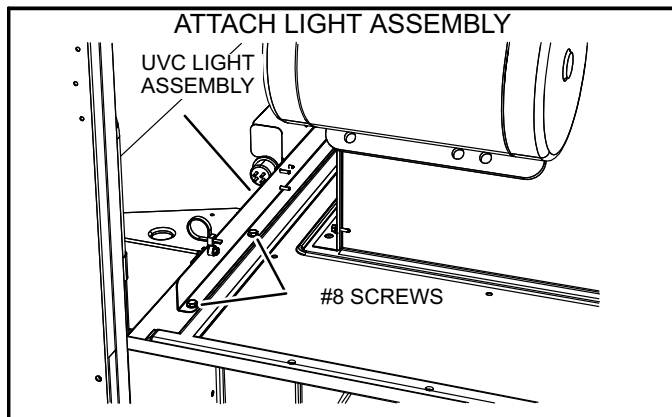

FIGURE 14
- 2- Carefully place the UVC assembly on the blower deck. Line up the mounting holes on the UVC assembly with the mounting holes on the blower deck (see figure 14). Use the #10 screws provided to attach the UVC assembly in place.
- 8- Carefully place the UVC assembly on the blower deck. Line up the mounting holes on the UVC assembly with the mounting holes on the blower deck (see figure 14). Use the #10 screws provided to attach the UVC assembly in place.